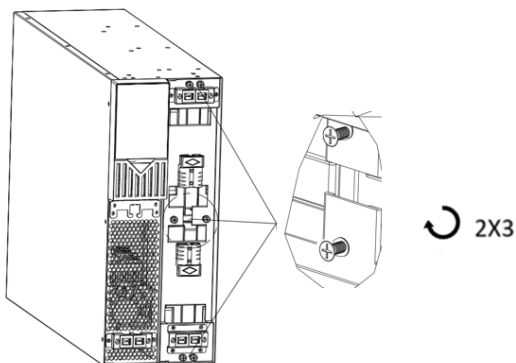

Figure 14
5. Re-attach the battery retention bracket (FIG. 14)